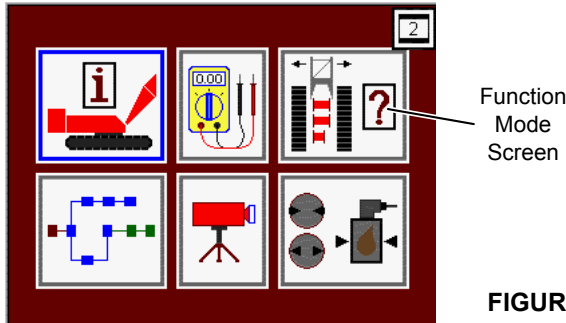

FIGURE 3-26
1. Enter the function mode screen on the main display (Figure 3-26).